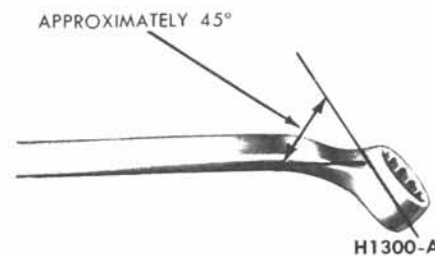

FIG. 4—Wrench for Bleeding Brake
(Fig. 4). Attach a rubber drain tube to the bleeder fitting. **The end of the tube should fit snugly around the bleeder fitting.**
3. Position a $\frac{3}{8}$ -inch box wrench on the bleeder fitting on the right rear brake wheel cylinder (Fig. 4). Attach a rubber drain tube to the bleeder fitting. **The end of the tube should fit snugly around the bleeder fitting.**